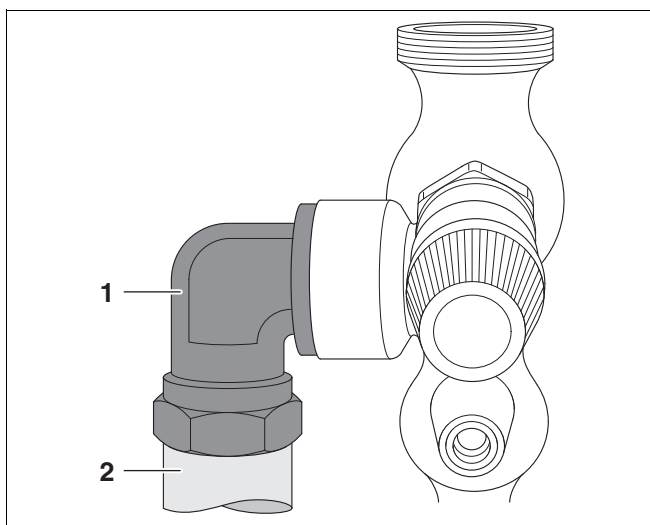

fig. 12 Fitting the compression elbow with discharge pipe
- Fit the compression elbow (fig. 12, **item 1**) (supplied packed with the boiler) using thread sealant.
- Fit a 22 mm metal discharge pipe (fig. 12, **item 2**).